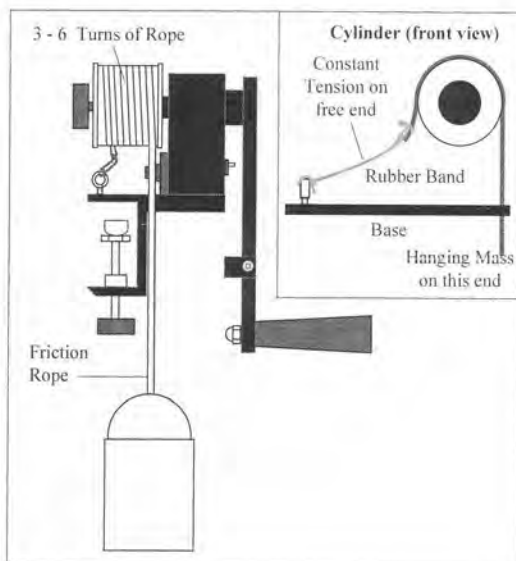
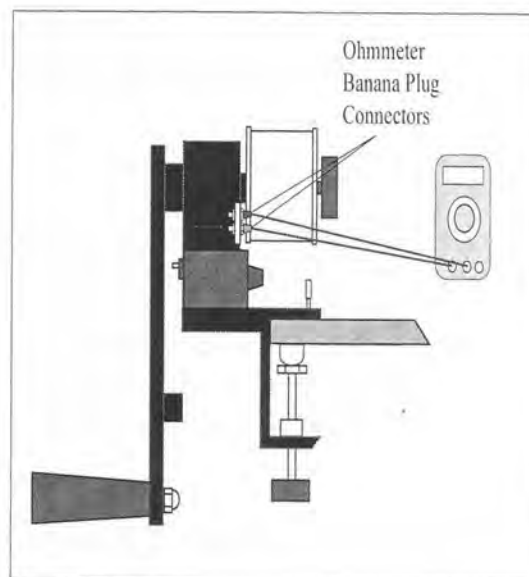

Figure 5.1
Figure 5.2
The apparatus for this lab must be set up carefully in order to obtain a good result. The overall apparatus is shown in Fig. 5.1. A multimeter (ohmmeter) will be used to determine the temperature of the cylinder as shown in Fig. 5.2 and described below. We convert mechanical work into heat through friction between a nylon rope and aluminum cylinder, as described in section 2.1. The source of mechanical energy will be provided by you—the aluminum cylinder will be turned by a crank. You should do the following to ensure your hardware is set up correctly.
6. Tie the rope to rubber band anchored to the base-plate of the crank, as shown in Fig. 5.1. The rubber band should be through the hook in such a way that it creates two loops. (One loop is not strong enough to maintain proper tension in the rope for most rubber bands—loop it through so that it is doubled up. Ask you TA/TI for help if needed.) Pull the rubber band's loops towards the aluminum cylinder before tying that end of the rope off, so that when you are not cranking the rubber band maintains some tension in the rope. Make sure the rope does not cross over itself anywhere on the cylinder.
9. Use the banana-plug connectors to attach the ohmmeter (see Figs. 5.2 and 5.4), and set it to the 200 k Ω setting or similar resistive range. Your apparatus is ready to go! Some tips about setting up multimeters are provided at the end of the instructions (p. 5).